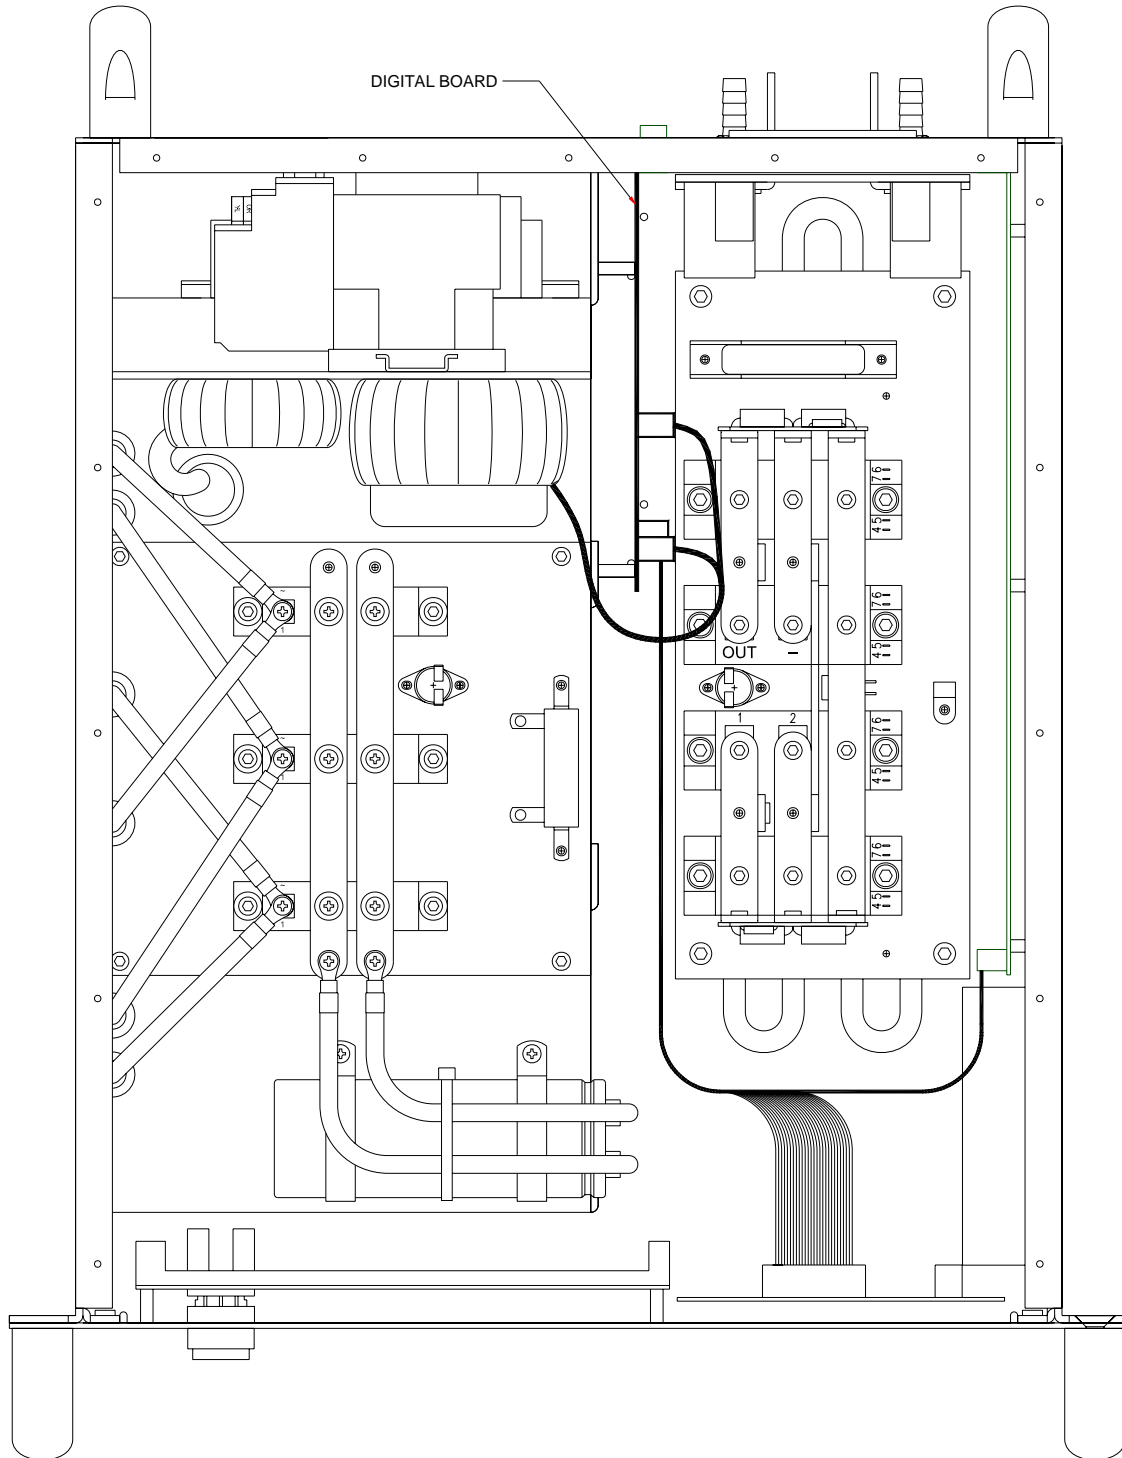

Figure 7-5. Board Locations (top view)
2. Refer to Figure 7-5 and locate the Digital Board assembly.